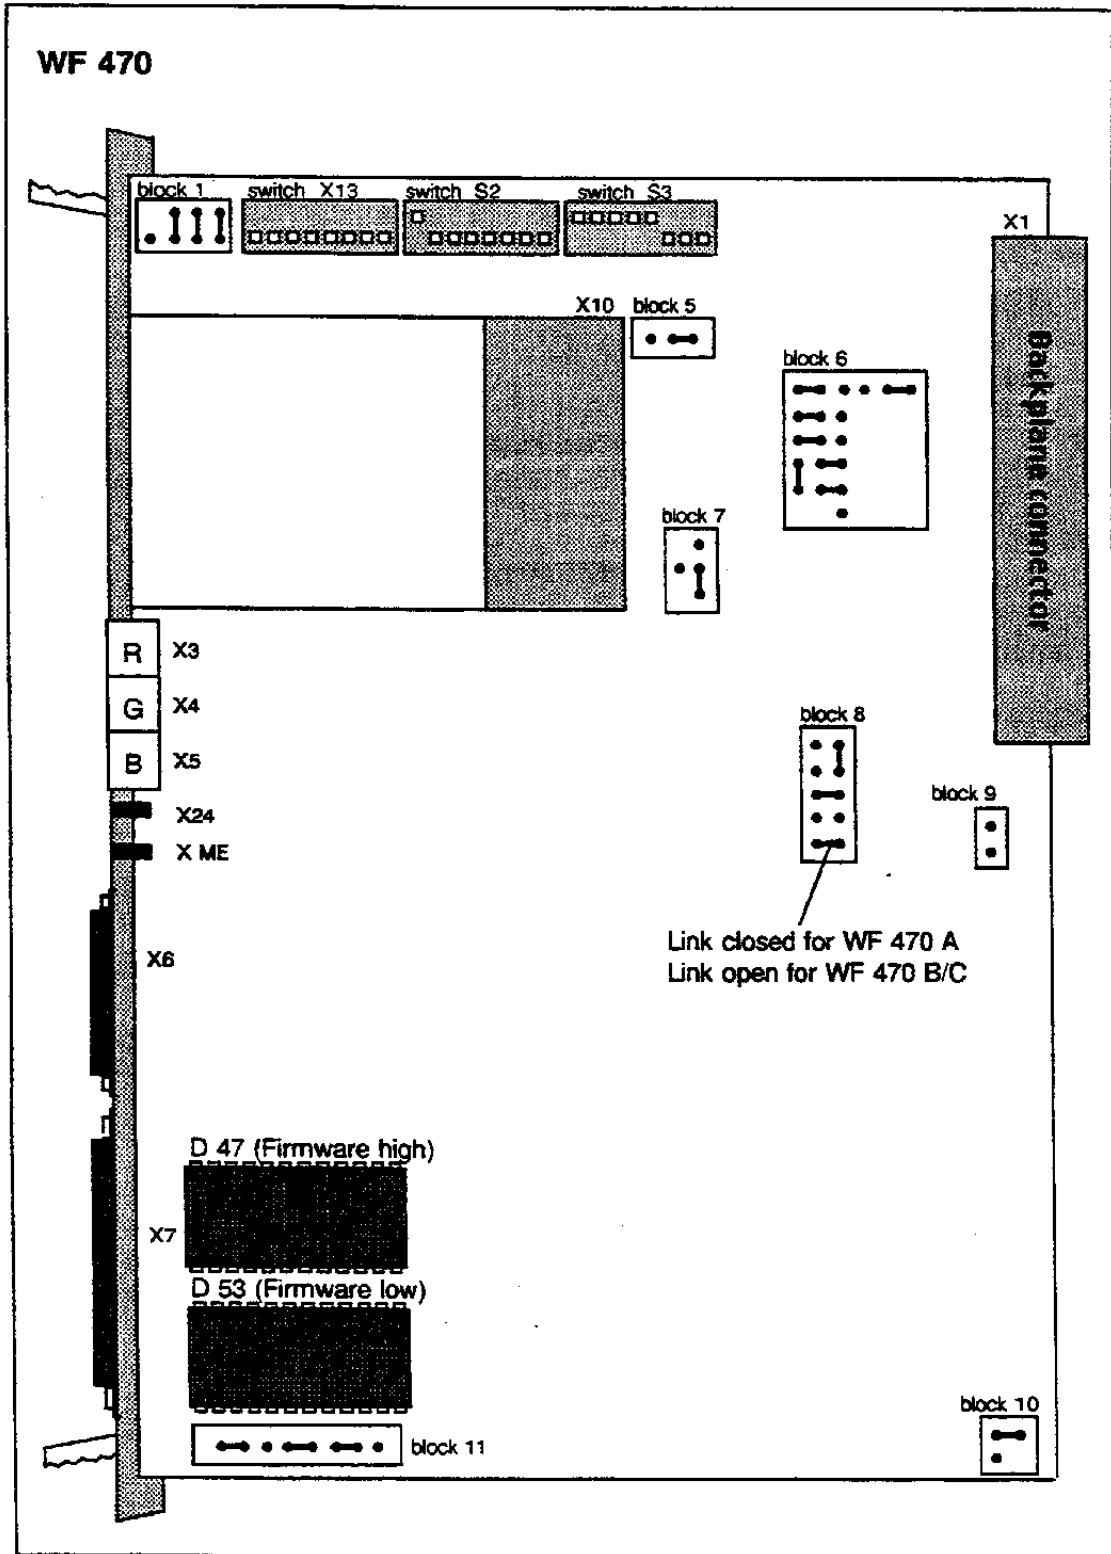

Fig. 4.1 Bridge and Switch positions for the WF 470 base board
The EPROM module locations D47 and D53 are shown in fig. 4.1 and 4.2.
**Functions (see fig 4.1) :**
All switches not shown remain in their as delivered settings, see fig. 4.1 and 4.2.